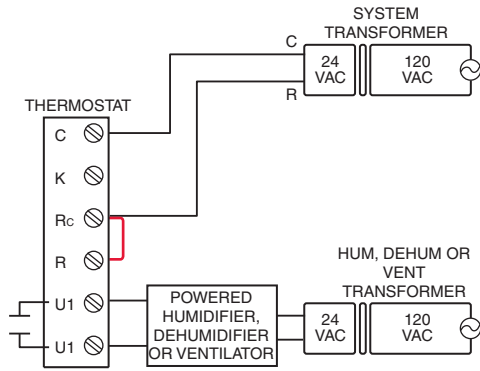

Fig. 225. Wiring a powered humidifier, dehumidifier, or ventilator.
All wiring must comply with local electrical codes and ordinances. See Fig. 225–234.
6. See Fig. 225–234 for typical wiring hookups.